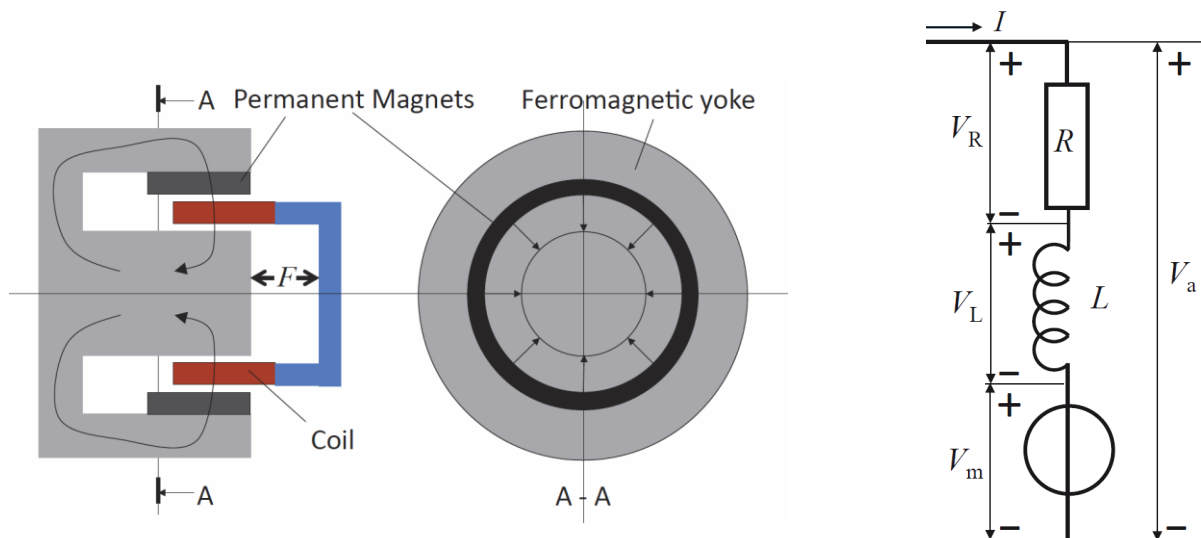

Figure 1: A Lorentz type actuator with its electrical equivalent circuit diagram
- The Lorentz actuator, as shown in figure 1, has a constant (ideal) motor constant  $F = BI\ell = 10I$  ( $B\ell = 10$ )